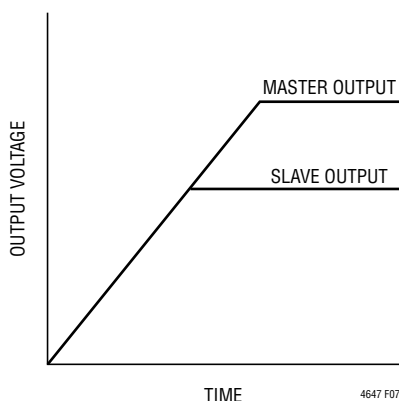

Figure 7. Output Coincident Tracking Waveform
The coincident output tracking can be recognized as a special ratiometric output tracking in which the master's output slew rate (MR) is the same as the slave's output slew rate (SR), waveform as shown in Figure 7.